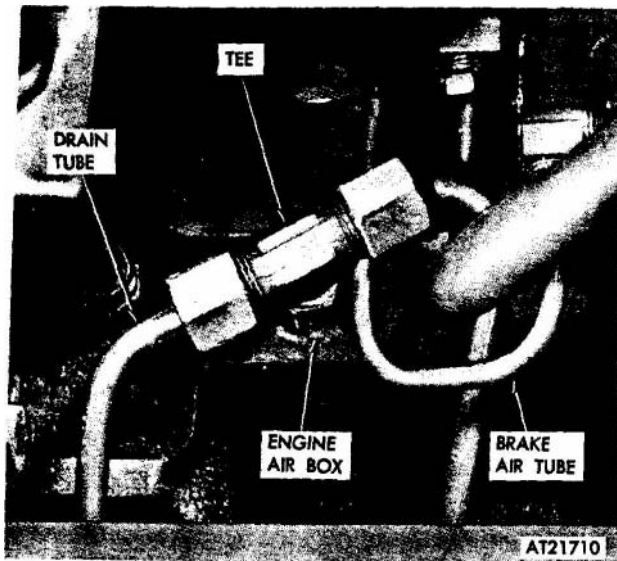

Figure 2-55. Air bar drain tube.
(15) Remove engine stop cable from governor by removing locking collar and clevis pin. Remove screw and clamp securing cable to governor bracket. Remove accelerator (throttle) and engine stop cable clamps from transmission brackets by removing two screws, lock washers, and nuts. Remove cable clamp from transfer case by removing screw. Replace screw in transfer case.
(16) Remove drain tube from tee fitting in engine air box by loosening connector nut (fig 2-55). Pull up and out of retaining clip.
(32) Connect air line to tee at air box drain outlet (fig 2-55).